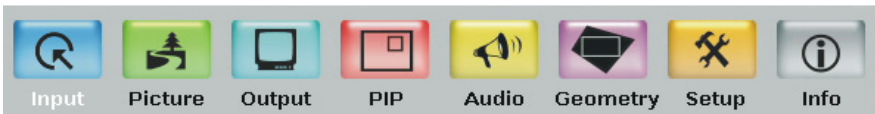

Figure 12: MENU Items
- Press the MENU front panel ON button or the MENU key on the infrared remote control transmitter (see section 8.3) to display the main MENU screen¹, which displays eight interactive icons² (see Figure 12)